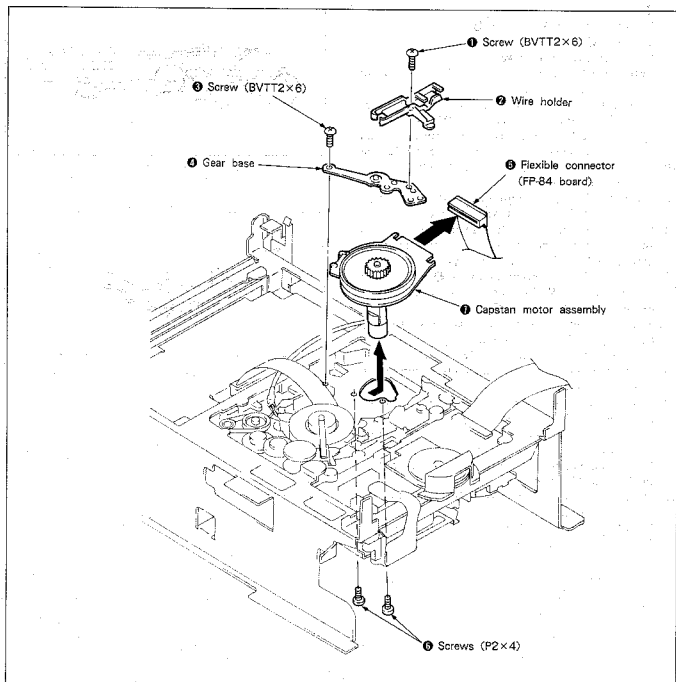

Fig. 7-44.
1. Removal (See Fig. 7-44.)
2. Mounting (See Fig. 7-44.)